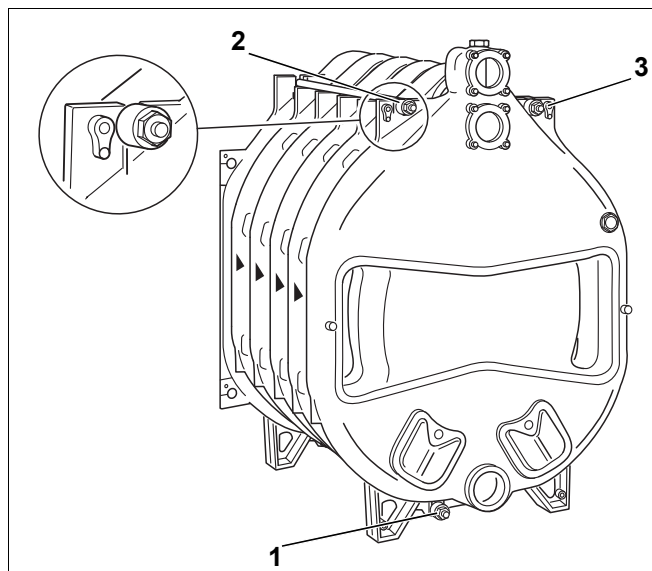

Fig. 17 Installation of the tie bars
- Insert the three tie bars with the spring sets mounted into the locations provided in the cast profiles (→ Fig. 17, [1], [2] & 3).